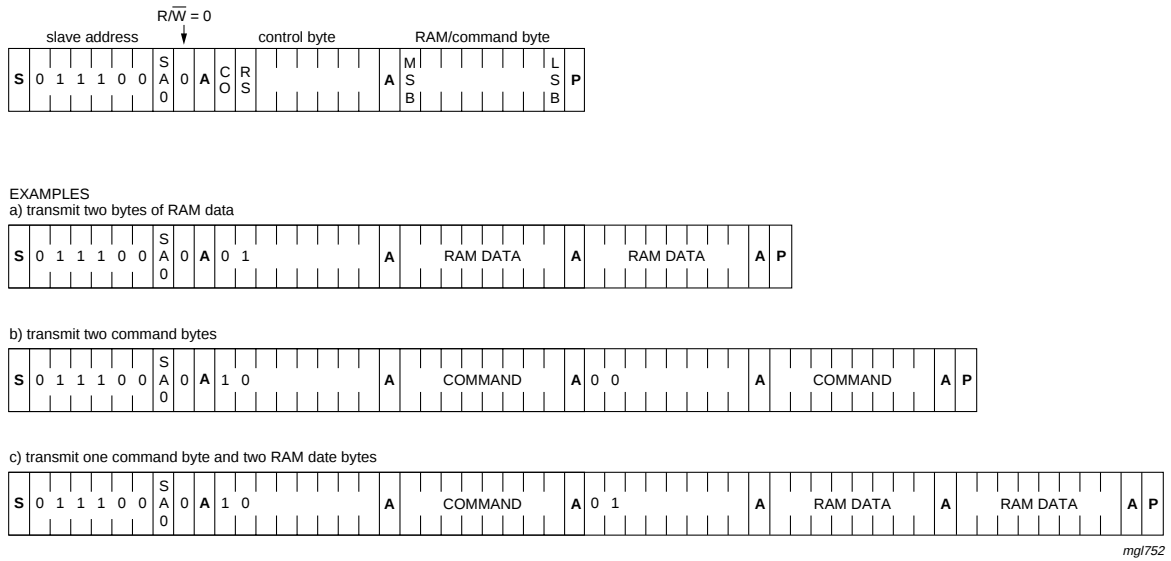

Fig 15. I²C-bus protocol
The I²C-bus protocol is shown in Figure 15. The sequence is initiated with a START condition (S) from the I²C-bus master which is followed by one of two possible PCF85133 slave addresses available. All PCF85133s with the corresponding SA0 level acknowledge in parallel to the slave address, but all PCF85133 with the alternative SA0 level ignore the whole I²C-bus transfer.